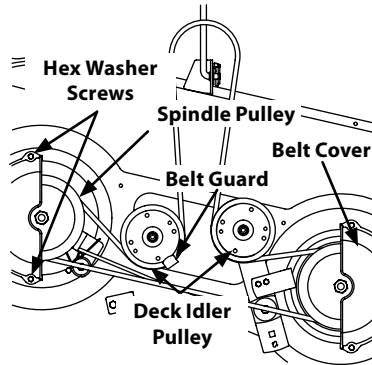

Figure 4-18
2. Remove the belt covers by removing the hex washer screws that fasten them to the deck. See Figure 4-18.
4. Carefully remove the deck belt from around the two spindle pulleys and the two deck idler pulleys. See Figure 4-18.
5. To place the new belt, begin by routing the belt around the two outer spindle pulleys as shown in Figure 4-18.
6. Route the belt around the two deck idler pulleys as shown in Figure 4-18.
9. Re-install the deck, making sure the belt remains routed around the pulleys as instructed. See Figure 4-18.